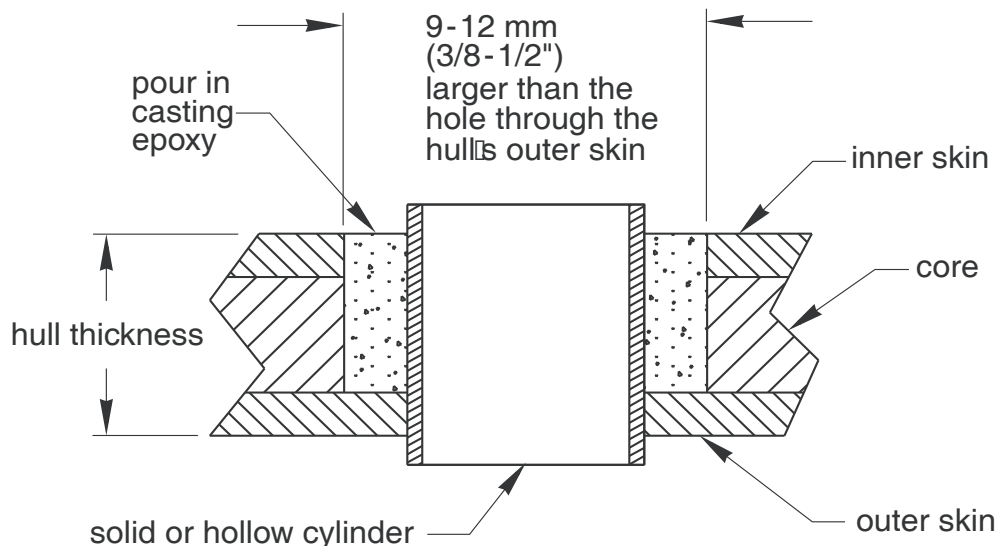

Figure 4 – Preparing a Cored Fiberglass Hull
2. Using a 51 mm or 2" hole saw, cut the hole from outside the hull through the outer skin only (See Figure 4).